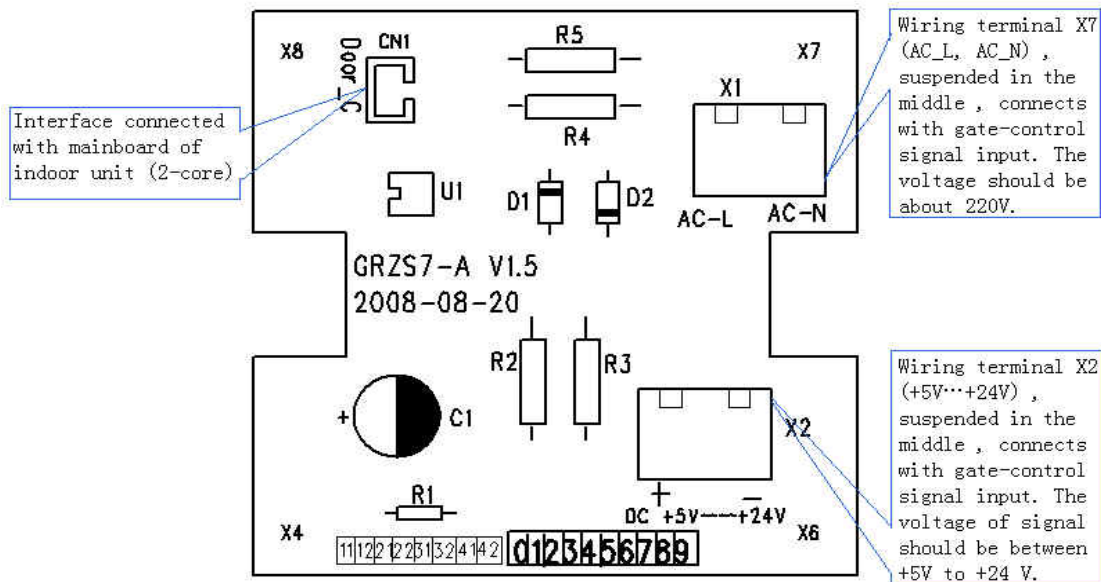

Fig2: Detection Control Board Interface Sketch
3. Detection Control Board Interface Sketch is shown in Fig.2: